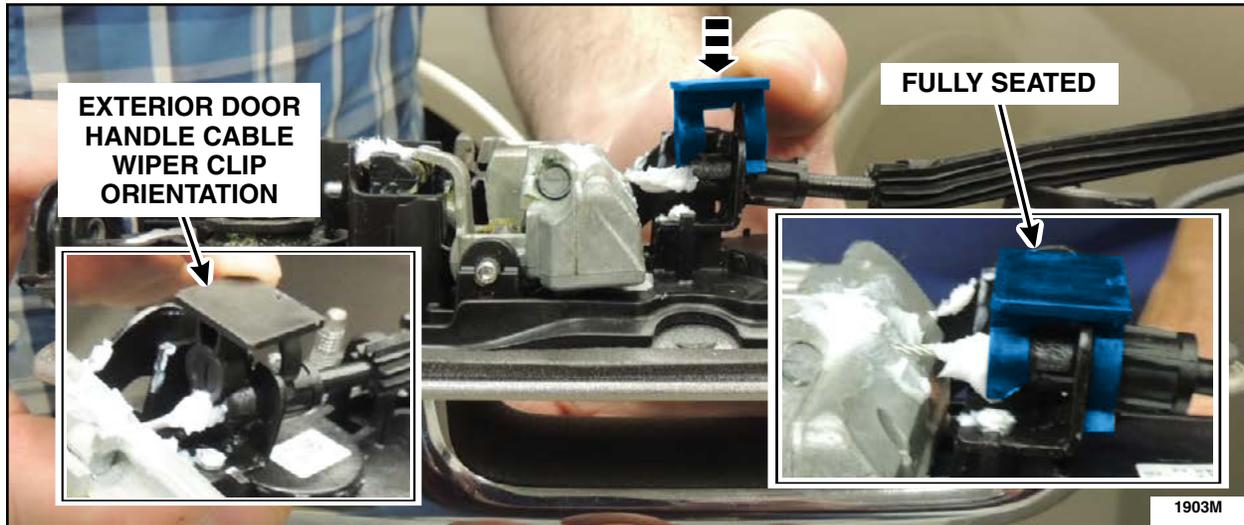

FIGURE 42
22. Install the *new* handle cable wiper clip on the exterior door handle cable end. See Figure 42.